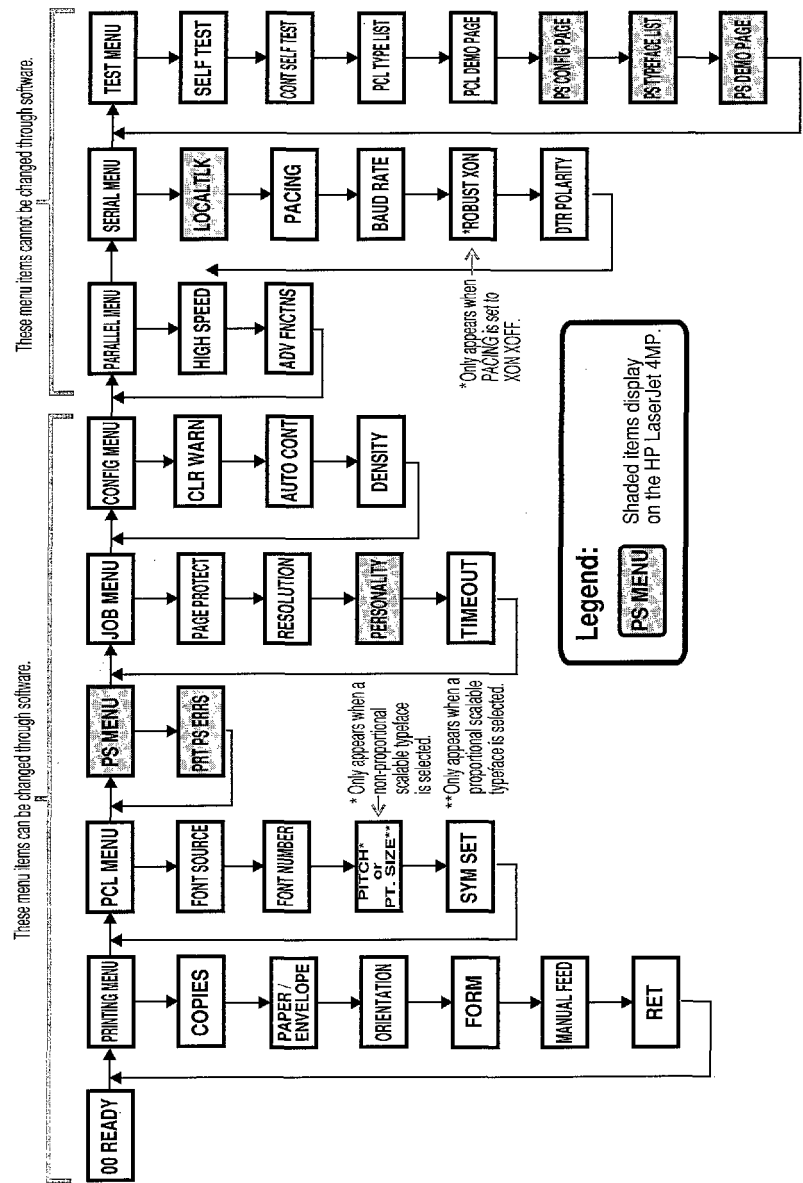

Figure 3-4 LaserJet 4P/4MP Menu Map
1. **Menu Selections:** Shows the current selections for all Service menu and user menus in the order that they appear in the control panel display (refer to the Menu Maps, Figures 3-4 and 3-5). Use this information to verify the various menu selections.